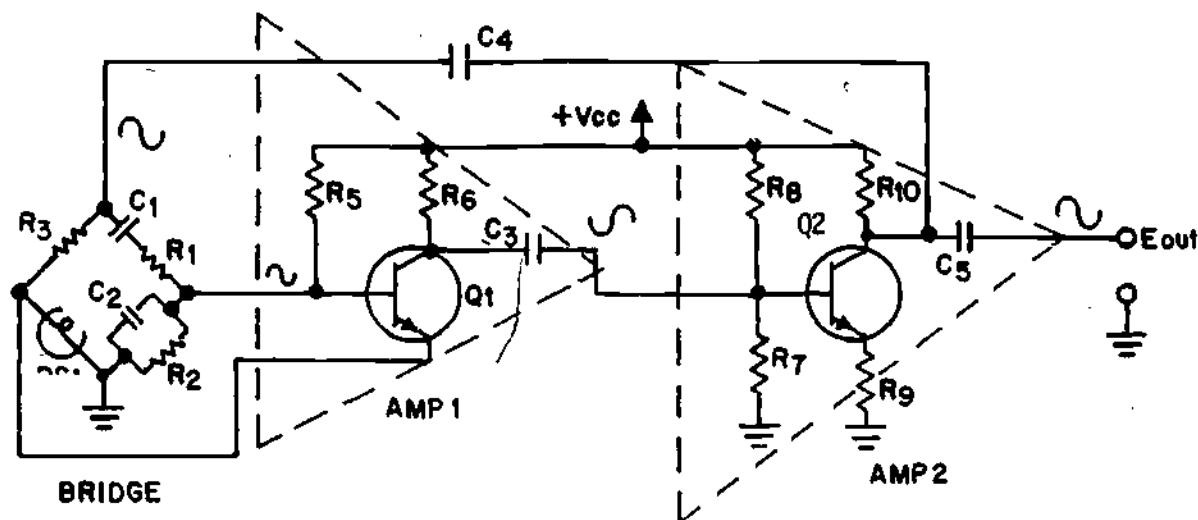

Figure 12
14. Figure 12 shows the schematic for a complete Wien-bridge oscillator circuit. Besides the bridge circuit the two amplifier circuits which effect the 360° phase shift are shown (inside dotted lines).